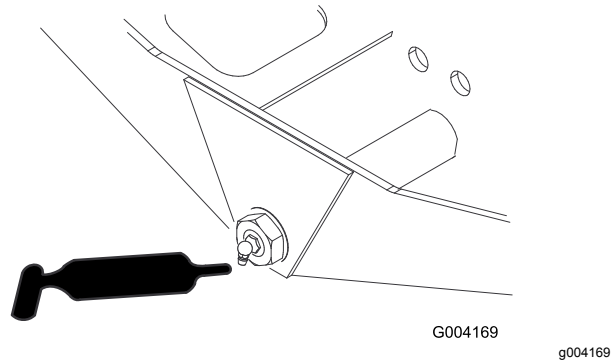

Figure 34
- Axle-steering pivot (1)—Figure 34